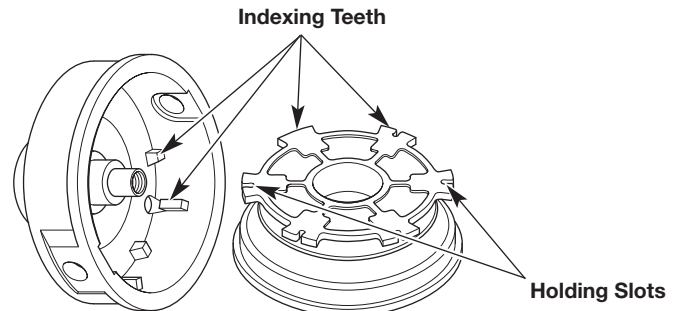

Fig. 17
6. Check the indexing teeth and holding slots for wear (Fig. 17). If necessary, remove burrs or replace the inner reel and outer spool.